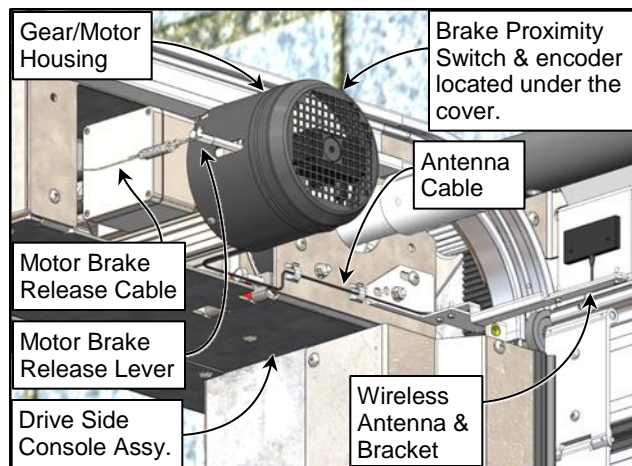
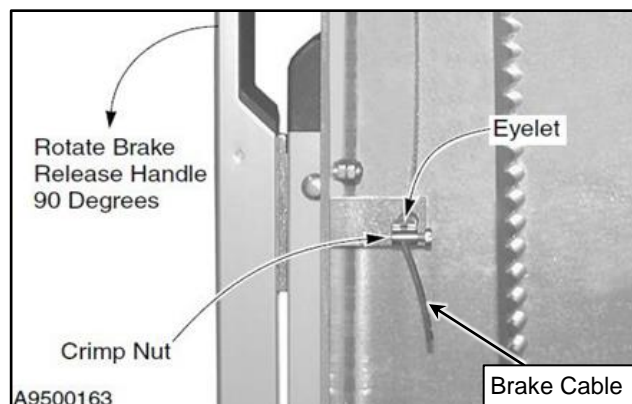
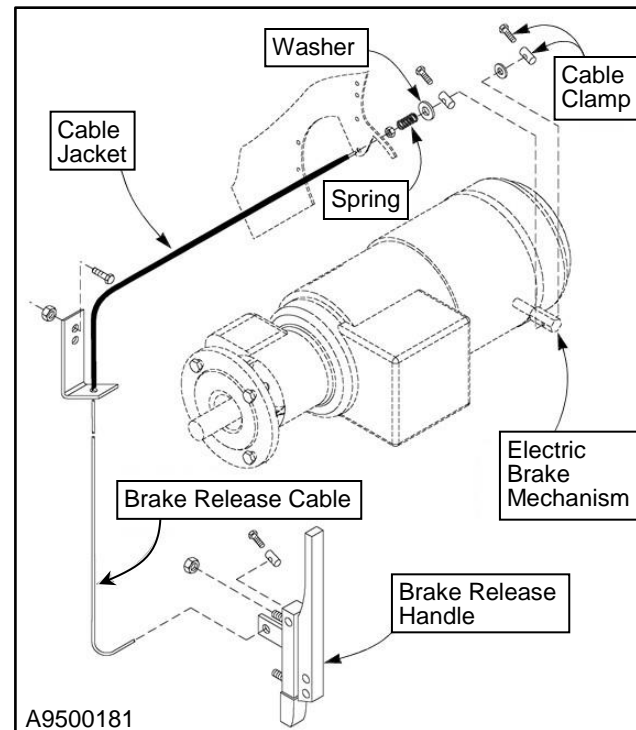

Figure 69
Figure 70
Figure 71
4. Disconnect the old brake release cable from the electric brake mechanism by removing the cable clamps, washers, and spring. Take note of the order & how all items are disassembled. Save all hardware. (See Figure 69 & Figure 70)
5. Remove & save the cable clamp at the handle end of the cable. Pull the old cable out of the head assembly and side column. Then discard the old cable. (See Figure 70)
6. Install the new brake release cable, taking the same path as the old cable. Be sure to feed the cable through the cable jacket that runs between the side column & the motor gearbox. (See Figure 71)
7. Install the new brake release cable, taking the same path as the old cable. Be sure to feed the cable through the cable jacket that runs between the side column and the motor gearbox. (See Figure 70 & Figure 71)
8. Using the saved hardware, connect the upper end of the cable to the electric brake mechanism in the reverse order the old cable was removed. (See Figure 71)
9. With the brake release handle fully extended out or at 90 degrees, feed the cable through the eyelet in the bottom of the handle. Slide a crimp nut over the end of the cable with the nut tight against the eyelet. Then tighten down the setscrew with the majority of slack removed from the cable. (See Figure 70)
11. After all adjustments are complete, cut the cable to final length, an inch or two past the cable clamp. (See Figure 70)